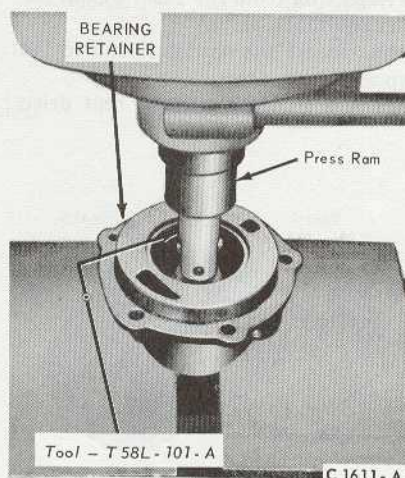

FIG. 13—Removing Rear Bearing Retainer Outer Cup, Bearing and Seal
5. Press the outer cup, bearing and seal from the bearing retainer as shown in Fig. 13.
6. Remove the inner cup with the tool shown in Fig. 13.